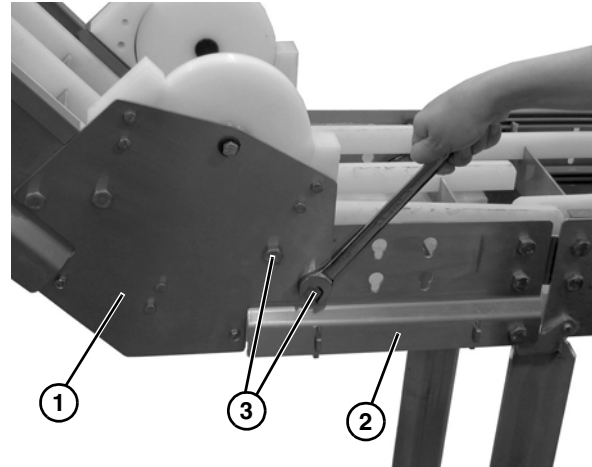
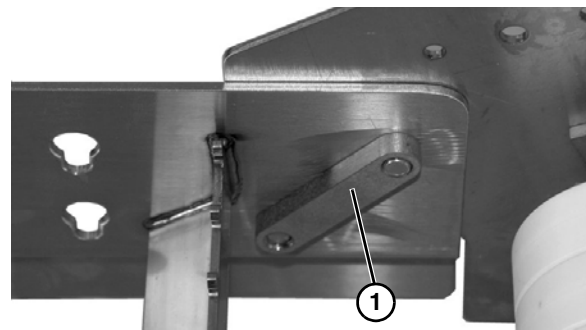

Figure 8
Figure 9
1. Attach lower knuckle (**Figure 8, item 1**) to frame (**Figure 8, item 2**) by using two cap screws (**Figure 8, item 3**) and connector plate (**Figure 9, item 1**) on each side of conveyor.